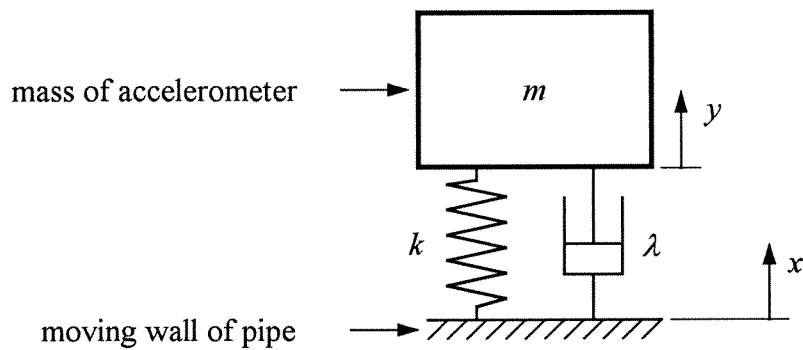

Fig. 5
- (c) Alternatively the motion of the accelerometer y may be derived from the motion of the pipe x using the mechanical system shown schematically in Fig. 5. Calculate the required spring constant k , for an accelerometer mass $m = 10 \text{ g}$ and damping coefficient $\lambda = 3 \text{ Ns/m}$, if this system is to have the same upper 3 dB frequency as the circuit in (b). Sketch the magnitude of gain versus frequency relationship for this system from 0.1 Hz to 1 kHz. [7]